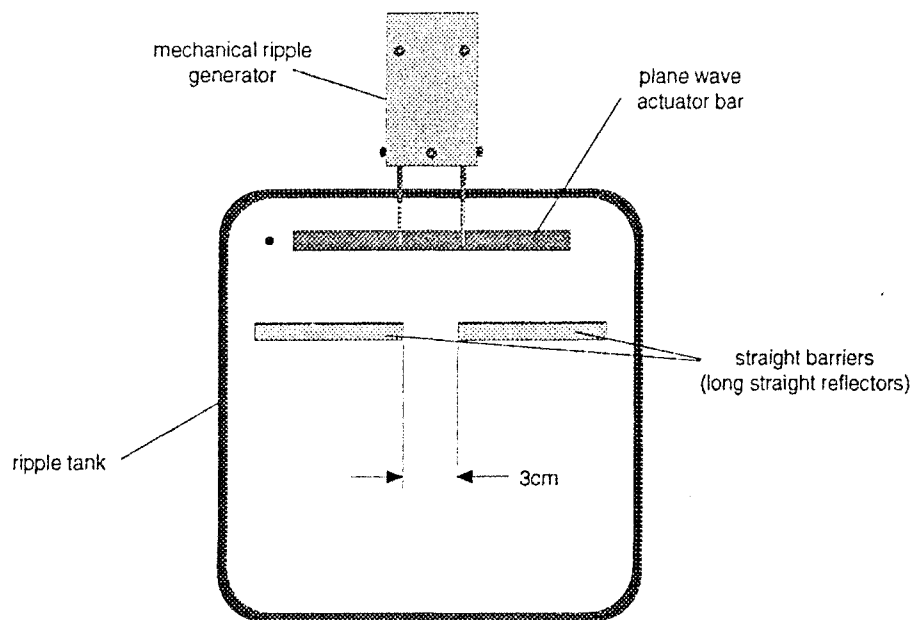

Figure 3.1 Position of Straight Barriers
- ① Place the two long straight reflector about 3 cm apart in the water as shown in Figure 3.1.